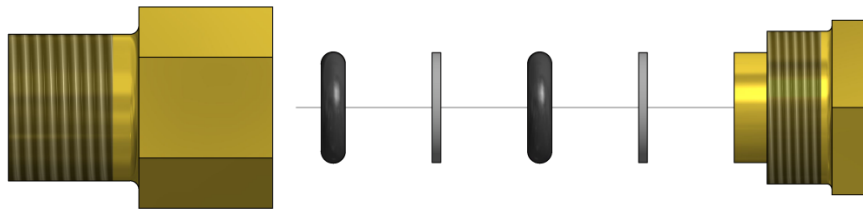

Figure 4: Proper Installation of Washers and O-rings in the Packing Gland
- Screw the packing gland into the 1/2" NPT half coupling. PTFE tape should be used to seal the NPT threads of the packing gland. O-rings and washers must be installed in the packing gland as shown in Figure 4.